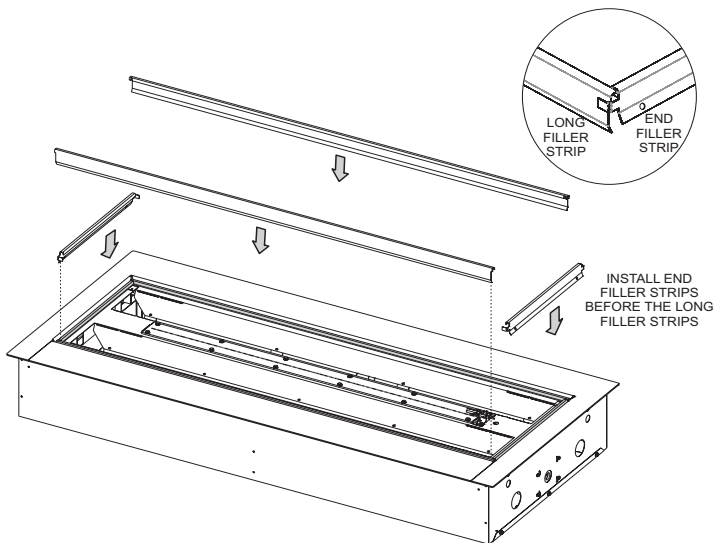

Figure 27a
2. Install the (4) filler strips. Place the two short side filler strips in first, then install the long front and rear filler strips. The long filler strips will interlock at the ends with the side filler strips. **See Figure 27a.**